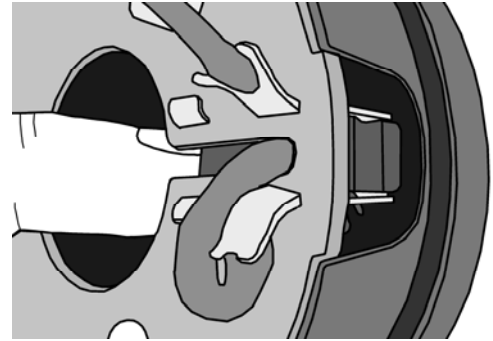

Figure 1.
5. The brushes in the new MOTOR CAP ASSEMBLY should be set in the 'assembly position' to make the assembly process easier. See Figure 1, which shows the brush being pushed into the 'assembly position'. If you push the brush to this position it should "click" into place and remain there.
6. Place the O-RING (03) on to the MOTOR CAP ASSEMBLY (04) and place the wavy washer (02) in the bearing seat of the MOTOR CAP ASSEMBLY (04). Be careful in the following steps that the wavy washer (02) remains in position.
7. Align the tab on the motor assembly (01) with the cut-out on the MOTOR CAP ASSEMBLY (04) and assemble them together but leave a small gap of approximately 5mm.